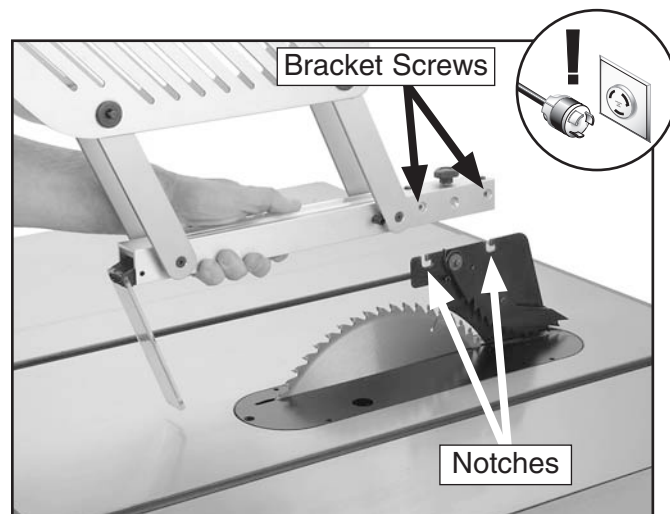
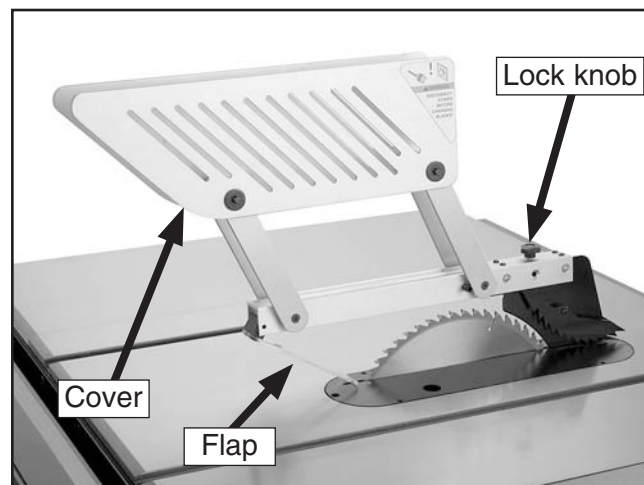

Figure 27. Installing blade guard on splitter.
Figure 28. Blade guard installed.
6. Slide the bracket screws shown in **Figure 27** into the notches on the splitter, push the guard toward the back of the table, and tighten the lock knob (**Figure 28**). If you have difficulty sliding the blade guard bracket screws (**Figure 27**) into the notches on the splitter, loosen the bracket screws just enough so the guard fits on the splitter.